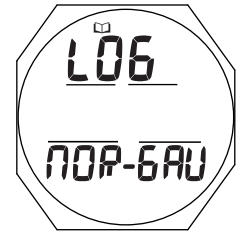

Fig. 31 - LOG LEAD-IN
**Log Lead-in**, information includes (Fig. 31):